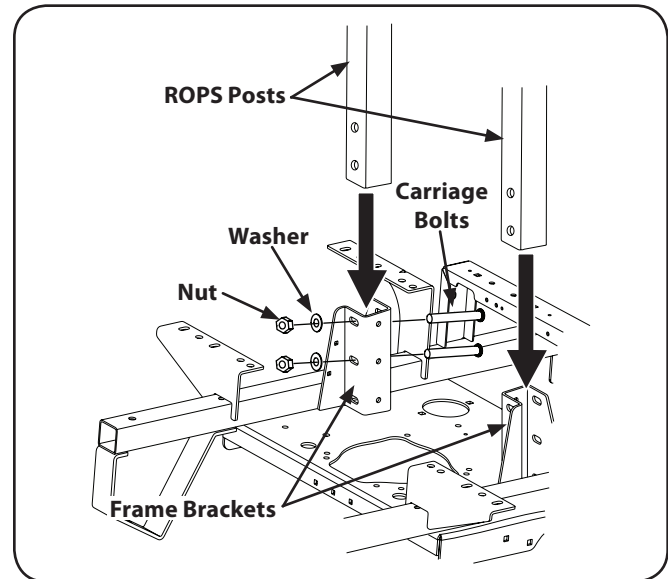

Figure 3-2
1. Insert each of the lower section ROPS posts into the brackets welded to the main frame. See Fig. 3-2.
6. Tighten the frame mounting hardware to 80-90 lb.-ft. torque. See Fig. 3-2.